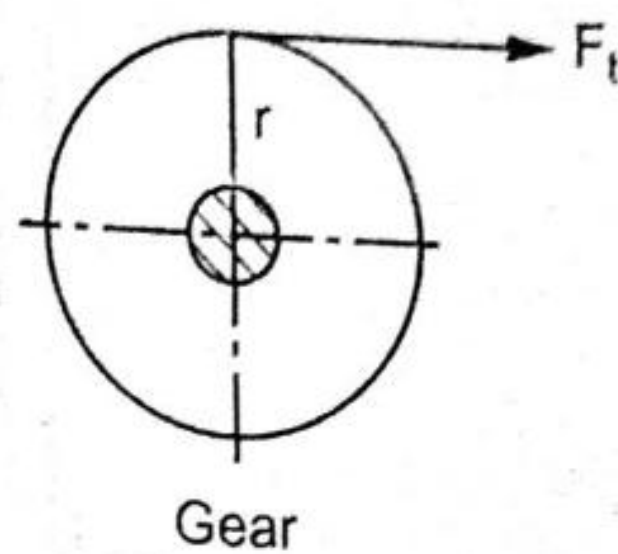

Fig. 9.18.
- ✓ Calculate the tangential force on the gear in terms of module using the relation (refer Fig.9.18),